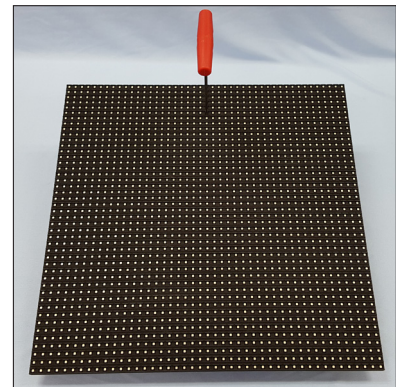

Figure 15: Module Front
3. Locate the latch fastener on the module near the top-right side. Refer to **Figure 15**. Turn the wrench a quarter-turn clockwise.